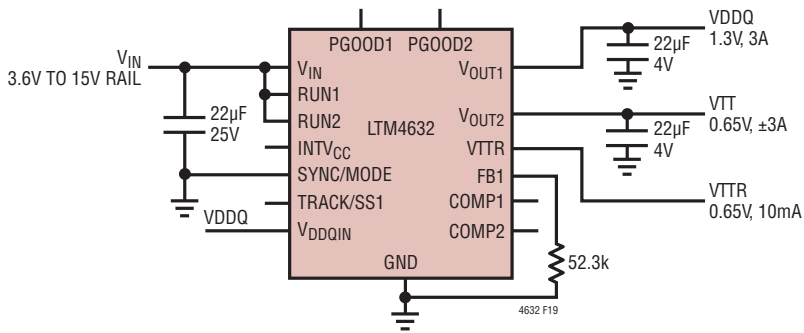

Figure 19. 3.6V to 15V Input, 1.3V/3A VDDQ, 0.65V/ $\pm$ 3A VTT and 10mA VTTR Design
**Table 5. Output Voltage Response for Each Regulator Channel vs Component Matrix (Refer to Figure 19)